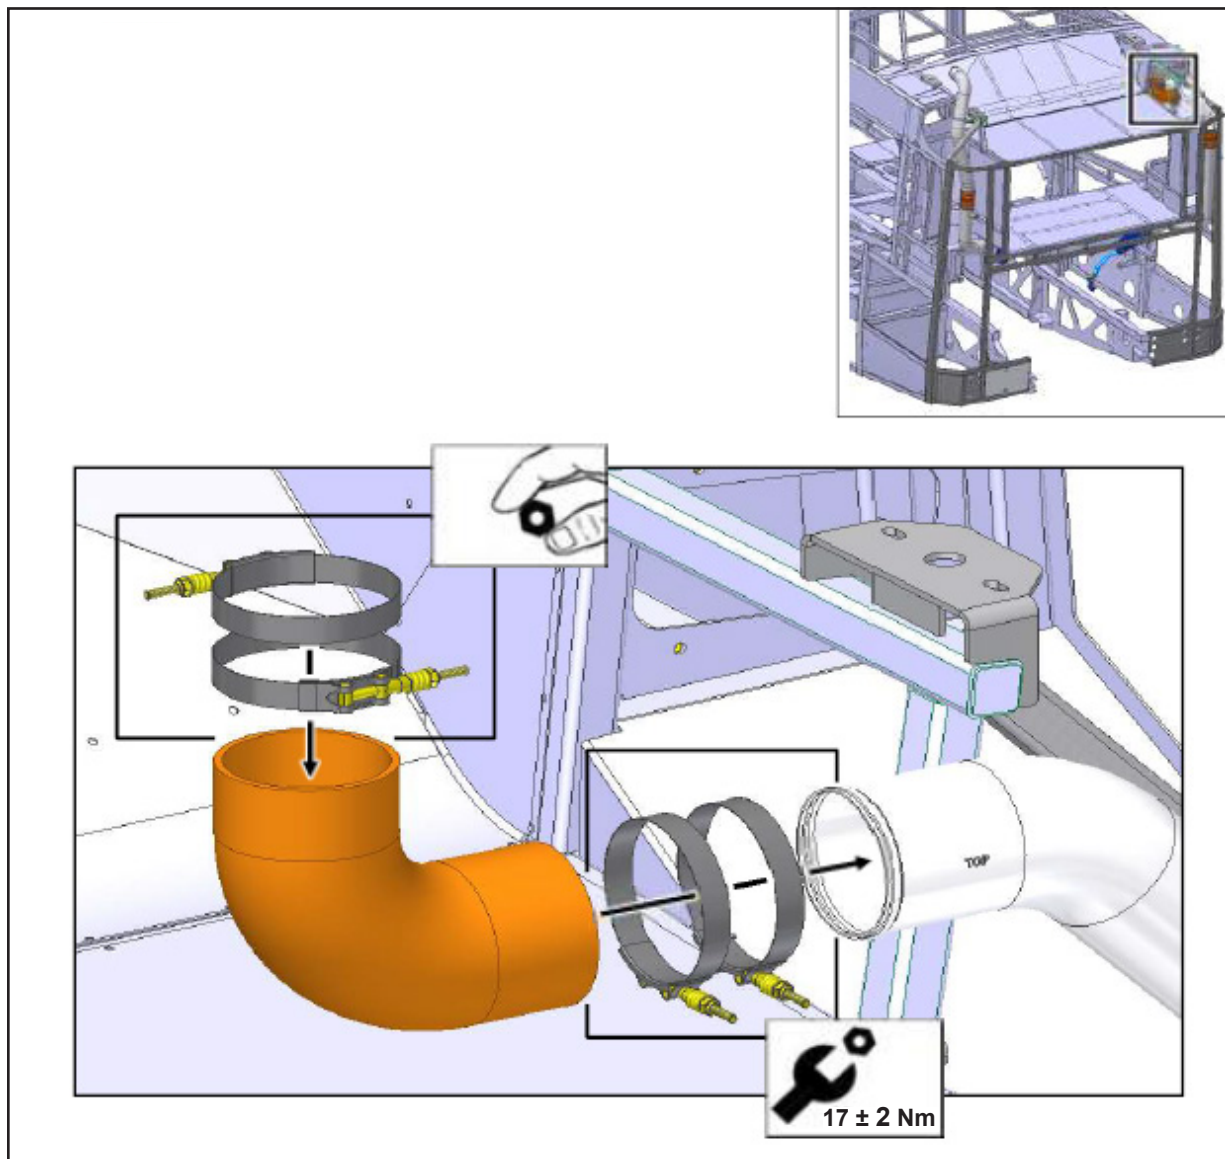

Figure 4 - Installation of Elbow in CAC Pipe
- 1.7. Reuse the clamp N12883, torque at 17 ± 2 Nm (see figure 4).